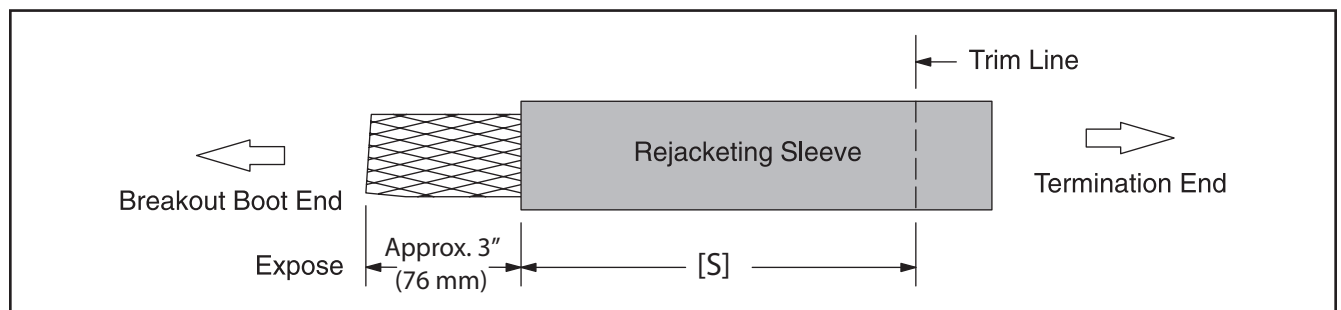

Figure 6
- 3.4 Using scissors, trim rejacketing sleeve assembly to length required (Figure 6). Cut tubing and inner braid together.